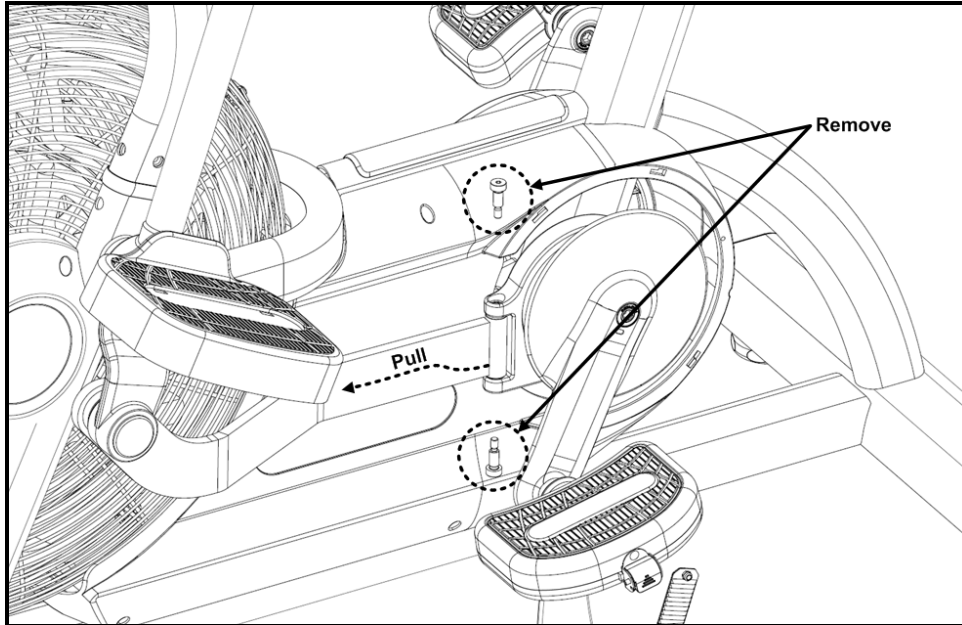

Fig. 2
2. Detach the left & right crank linkage arms from the crank cams by removing the two securing shoulder bolts (Fig. 2) from each crank cam using a 4mm hex key and pull the linkage arm away from the crank cam bracket.